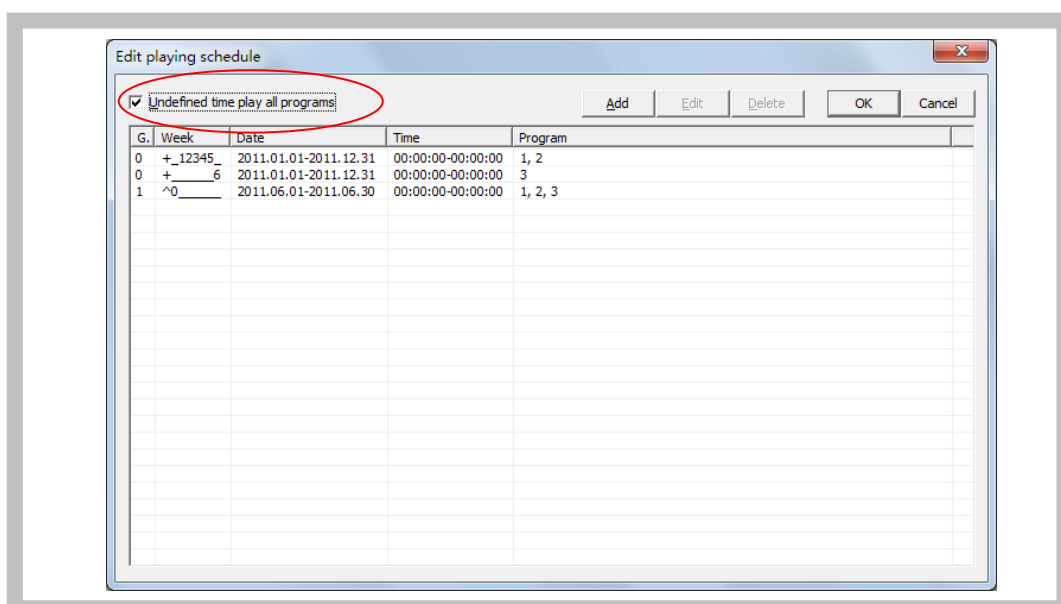

Figure41 Playing schedule list
- 1) Click "Edit" – "playing schedule" in menu, pops out the "Edit playing schedule" dialog box, as Figure41 shown